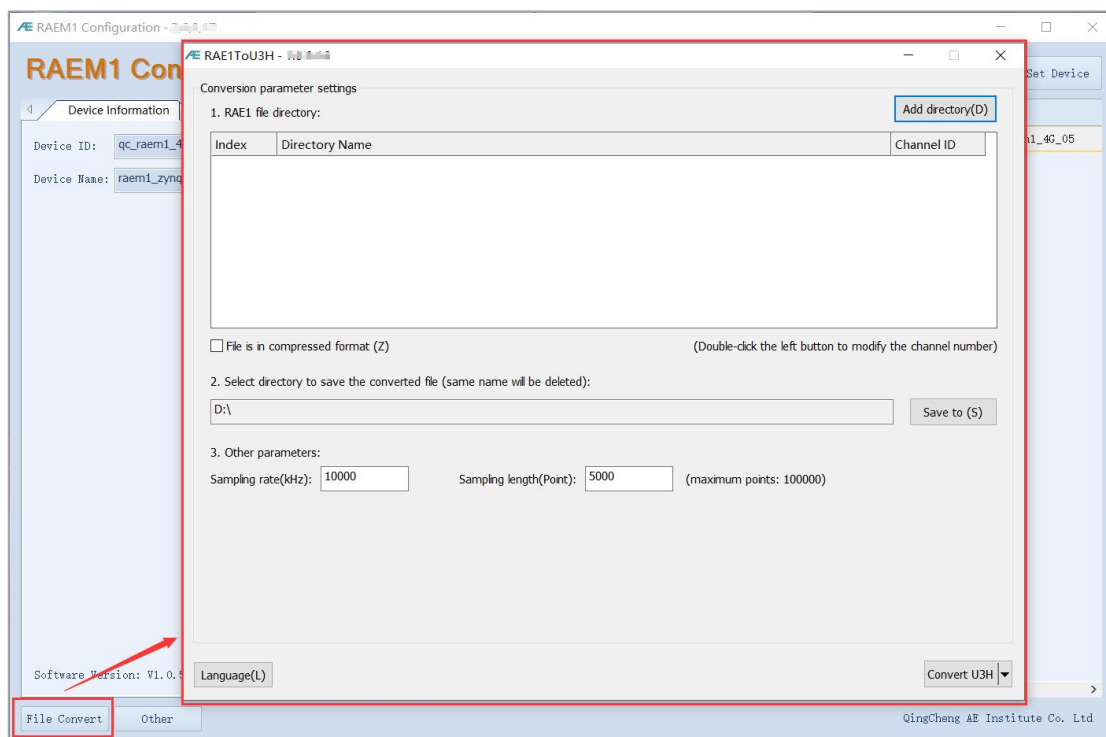

Fig. 9-1 Open RAE1ToU3H
- 1) Open **RAE1toU3H.exe**. It can also be opened through **RAEM1 Configuration software >> File Convert** button at the bottom left corner. See Figure 9-1.